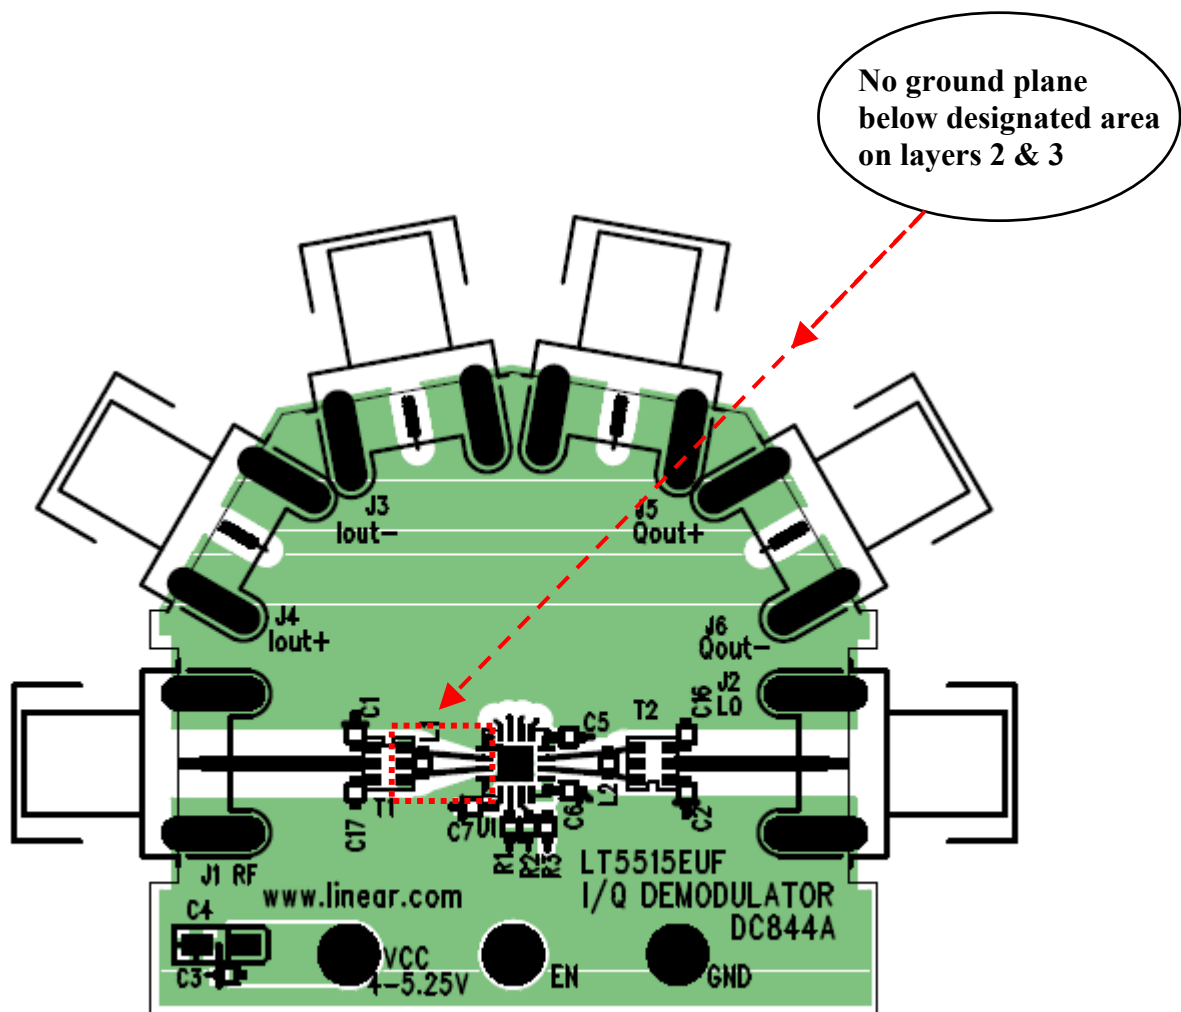

Figure 1
- Depending on the PCB structure, the landing pads of the secondary winding of the RF transformer and the landing pads of the LT5515 differential RF input may have some parasitic shunt capacitance to ground. In conjunction with the LT5515 package's RF input bond wires, this can form a very high frequency tank circuit, which may result in an out-of-band (5GHz – 9GHz) self-oscillation of the LT5515's RF input buffer stage. Such an oscillation would degrade important parameters of the LT5515 including IP2 and IP3. The area surrounding the IC's RF inputs (including input solder pads) and their connecting traces to the RF input transformer, should not have any ground plane on layers 2 and 3 (4-layer printed circuit board, 0.062-inch total PCB thickness), refer to Figure 1 and demo board layout. Additionally the ground plane on the top layer of the PCB should have a keep-out of about 0.5 to 0.7mm for the area from the IC's RF inputs to the RF transformer (also refer to Figure 1 and demo board layout). This will effectively minimize the parasitic shunt capacitance of the landing pads of the secondary winding of the RF transformer and the landing pads of LT5515 differential RF input.